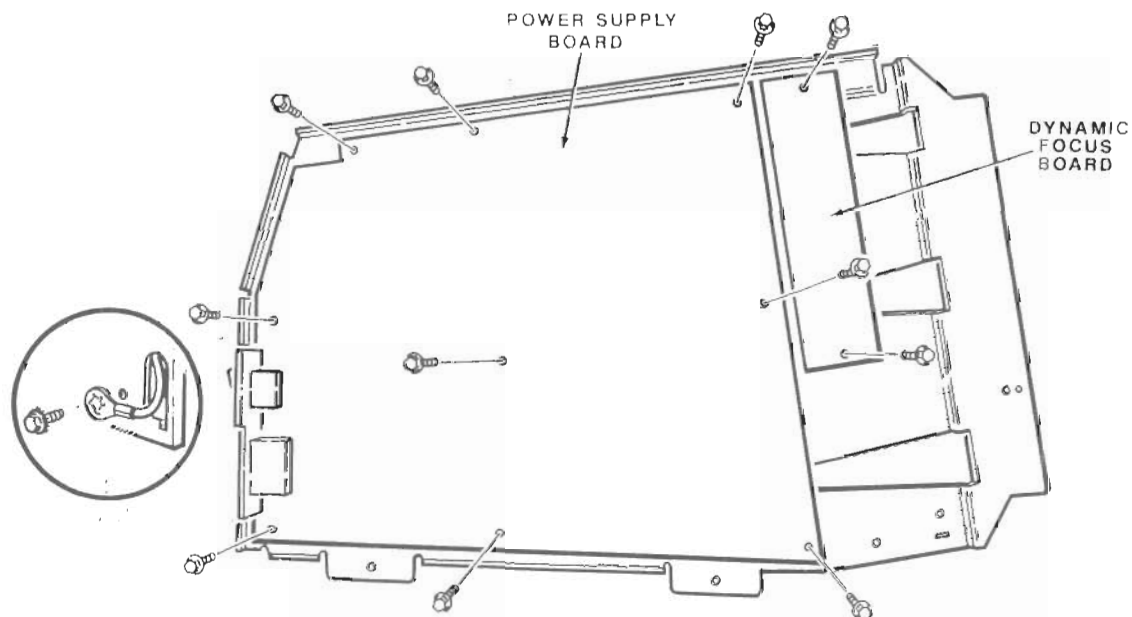

Figure 3-12. Power Supply and Dynamic Focus Board Removal
2. Refer to Figure 3-12 and remove the appropriate hex screws for either the power supply board or the dynamic focus board. Lift the board away from the panel and replace the screws.